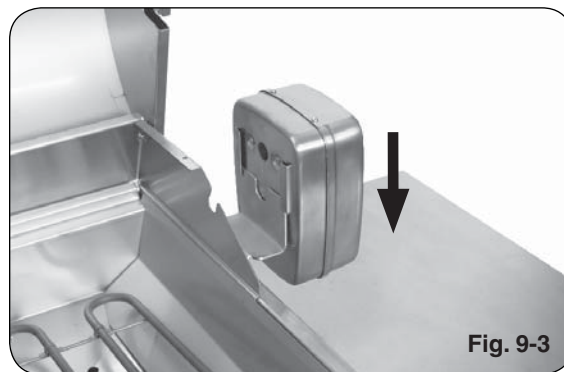

Fig. 9-3
2. Slide the rotisserie motor fully onto the motor bracket located on the right of the grill (Fig. 9-3).